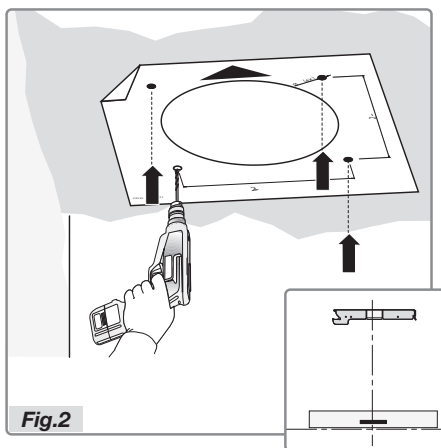

Fig.2
- Take the template and place this against the ceiling with the arrow on the same side as the hood's control panel (Fig.2).